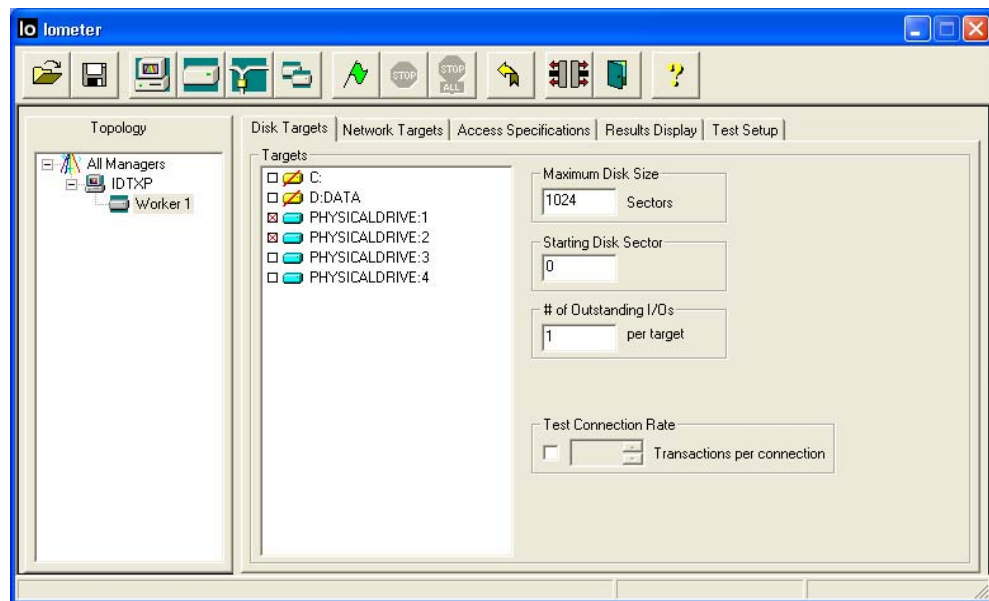

Figure 9 Iometer Disk Target Selection Screen
1. If the HPFC Cards are setup properly, when the Iometer is opened it should display several physical volumes in addition to whatever Hard Disks are physically present in the system (see Figure 9). If the physical volumes that represent the HPFC Cards are not displayed, go into the disk manager and delete any partitions that may be present on these physical drives.
2. In the Iometer window, assign a worker to one or two of the visible physical volumes shown in Figure 9.
1. If the HPFC Cards are setup properly, when the lometer is opened it should display several physical volumes in addition to whatever Hard Disks are physically present in the system (see Figure 9). If the physical volumes that represent the HPFC Cards are not displayed, go into the disk manager and delete any partitions that may be present on these physical drives.